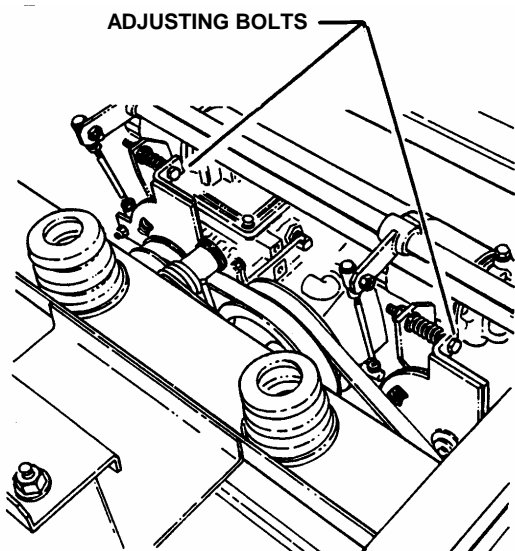

FIGURE 4.1
7. If wheel(s) are rotating, disconnect transmission control rods from cross shaft and turn adjusting bolts located on pump(s) clockwise, or counter-clockwise, until wheel(s) stop rotating. See Figure 4.1